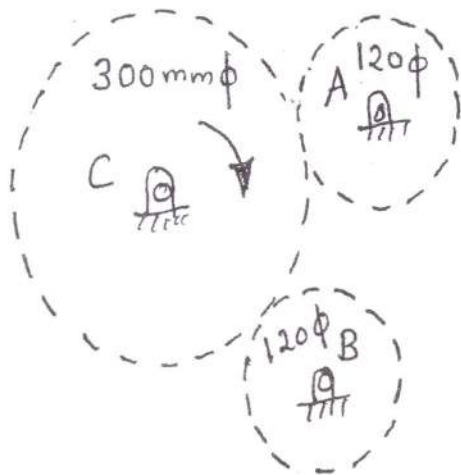

Fig. 3
- 7. Three gears A, B and C are arranged as shown in fig. 3. Each of the gears A and B have a mass of 675 gm and has a radius of gyration of 40 mm, while gear C has a mass of 3.6 kg and has a radius of gyration of 100 mm. Assume that kinetic friction in the bearings of gears A, B and C produces couples of constant magnitude 0.15 Nm, 0.15 Nm and 0.3 Nm respectively. If the initial angular velocity of gear C is 2000 r.p.m. determine the time required for the system to come to rest.